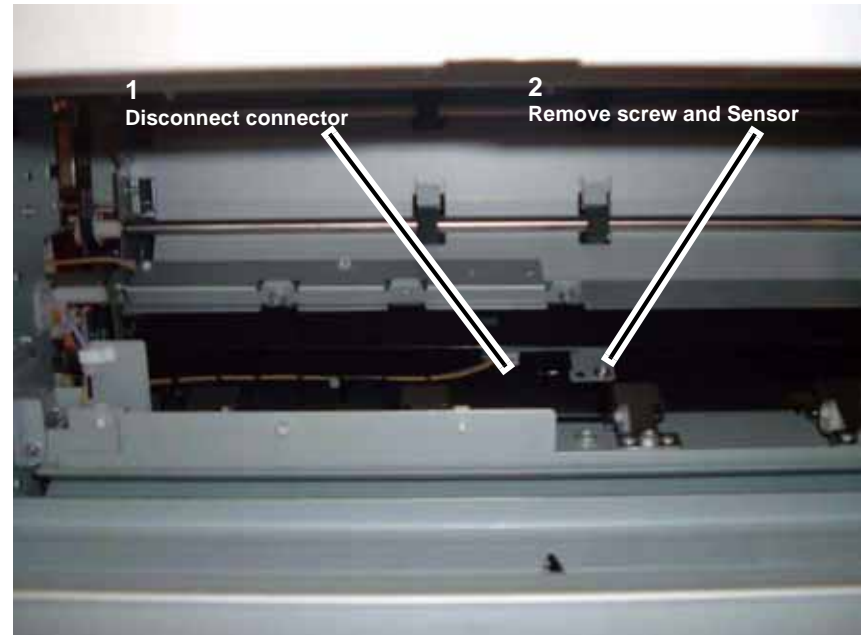

Figure 1 Removing the Buffer Path Sensor
3. Remove the Buffer Path Sensor (Figure 1).